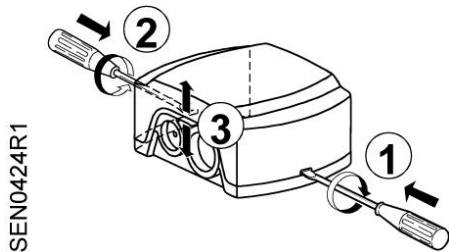

Figure 2.
- a. Remove the sensor cover, using the indented tabs. See Figure 2.